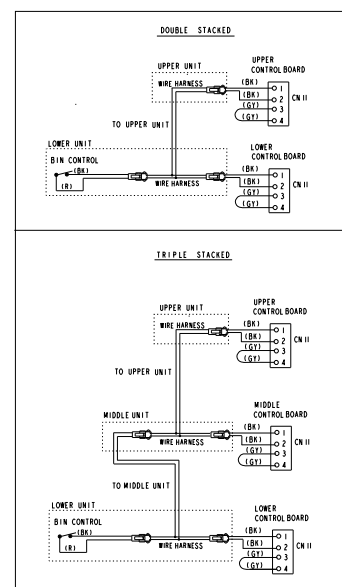

Fig. 16
28) Place the wiring label provided in this kit on the control box cover. See Fig. 16.